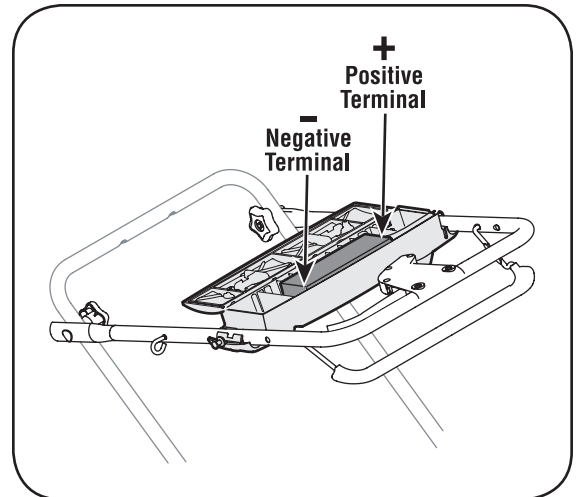

Figure 5-7: Open cover to view battery and wires.
3. Open battery cover, remove positive and negative leads from battery, remove and replace with new battery. See Figure 5-7. Connect the positive lead to the positive side of the battery pack, then connect the negative side.
**NOTE:** The battery you have may differ slightly from the one shown in Figure 5-7. Refer to the Parts List.
**IMPORTANT: When replacing battery pack in handle panel, battery pack must be positioned with the positive terminal to the left side and the negative terminal to the right side of panel (Positive terminal is closest to the key switch), Figure 5-7. Replacing battery pack incorrectly will cause serious damage.**